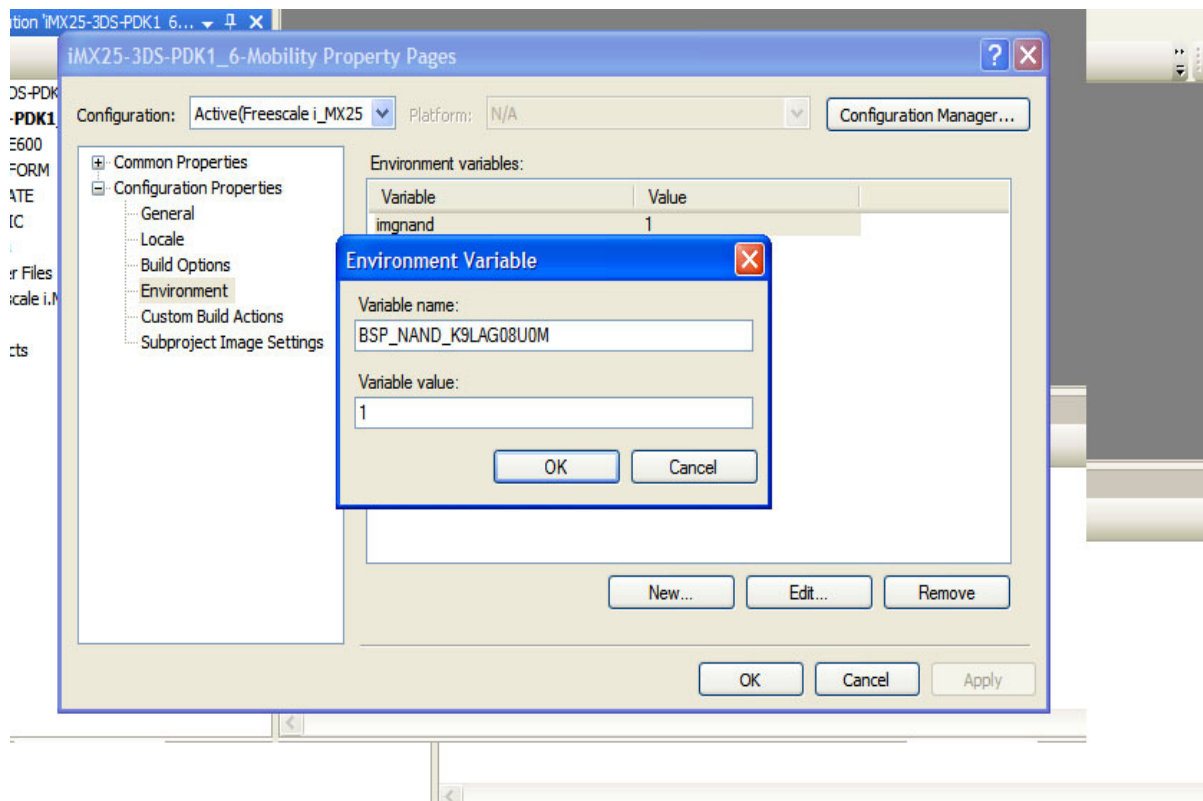

Figure 3. Entering Variable Name and Value
2. In the Variable name field, enter the variable defined in the sources file, which was modified in step 4 in Section 1.2, “Inclusion of New NAND Flash Models.” In the example shown in Figure 3, the variable name is BSP_NAND_K9LAG08U0M and the variable value must be equal to 1.
Figure 3 shows the variable name and its value.